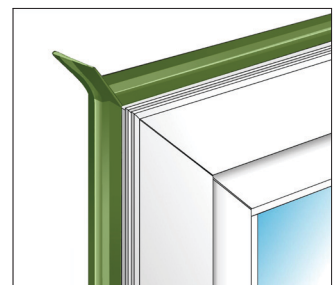

Fig 2
- Continue around the frame, applying to all sides and leave min 20 mm fold at each corner as fig 2.